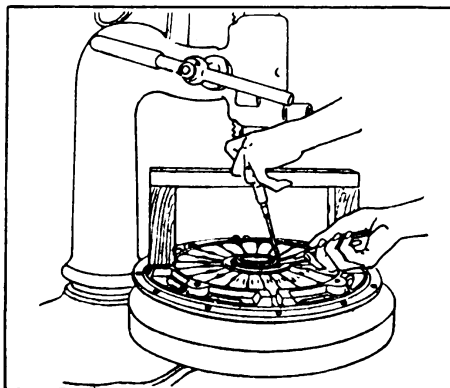

Figure 404
Remove the snap ring (117). We suggest the use of a special snap ring spreader for this purpose. See Figure 404.